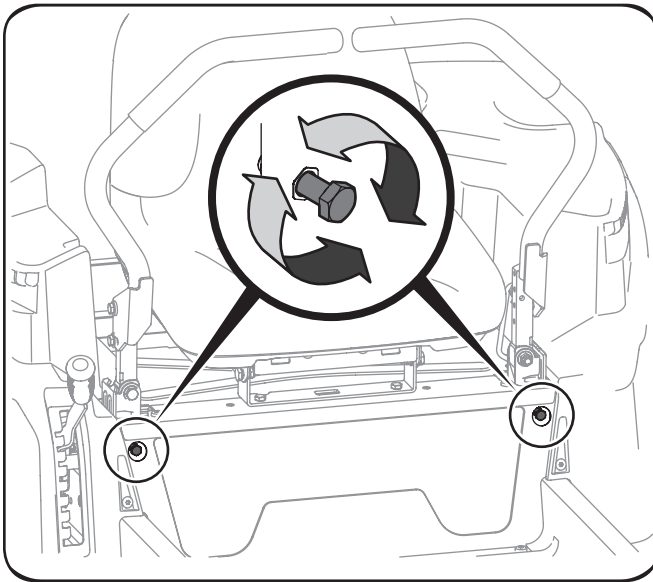

Figure 6-8
2. Locate the drive control lever stop adjustment bolts on the front of the seat frame. See Figure 6-8.